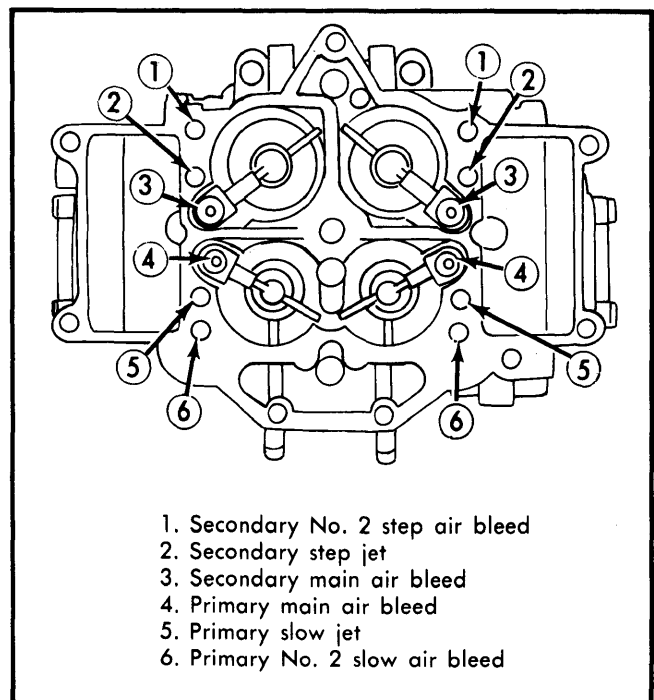

Fig. 9 Removing Jets and Air Bleeds
6) Remove air bleeds and jets. See Fig. 9. Using a hacksaw, remove idle limiter cap by cutting through limiter cap and mixture adjusting screw 0.4" (10 mm) from cap end. Remove and discard mixture adjusting screw and spring.